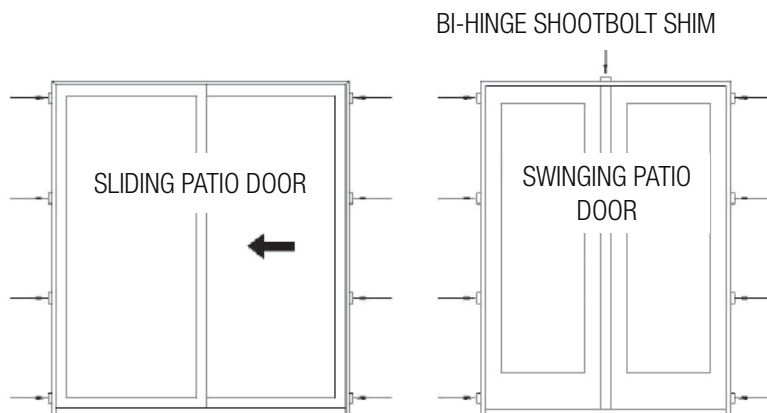

FIG. 13
- H) Start with a shim at each corner no more than 1" from the jamb corner. Add additional shims spaced evenly from the center of the unit. Make sure shims are spaced no more than 16" apart. Note to use flat shims or pairs of triangle shims to ensure the jamb does not twist. (Fig. 13)
- I) Additional shims are required at each lock point, head shootbolt and hinge location for all operating doors. (Fig. 13)